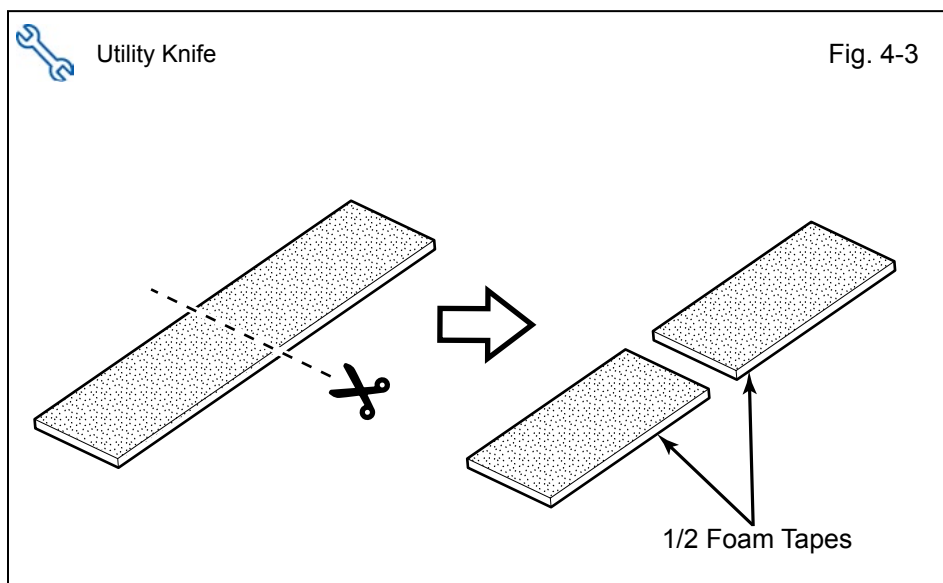

Fig. 4-3
- d. Cut Foam Tape in half. (Fig. 4-3)